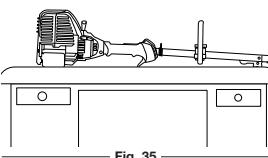

Fig. 35
- Insert the ends of the line through the eyelets in the outer spool (Fig. 35).
- Place the engine on a flat, level surface with the cutting head shield hanging off a work bench or table to get a proper oil level reading (Fig. 35).